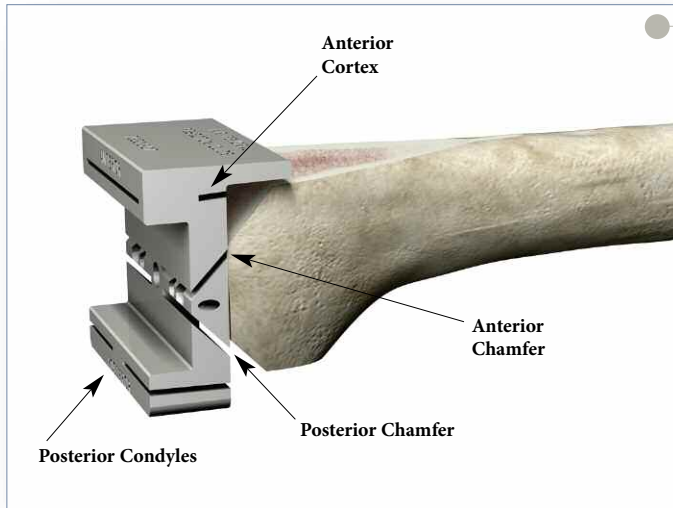

Figure 28
► Complete the remaining four femoral bone resections. (**Figure 28**) The order of the resection is critical.